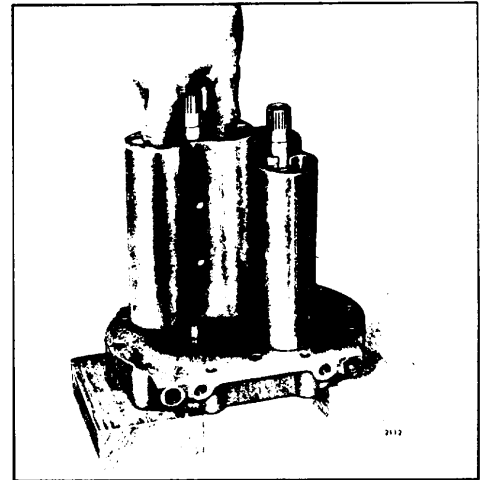

Fig. 5. - Installing Blower Rotors in Front End Plate
- b. Lubricate the outer diameter of the seal and, using installer J 22576, press the seal (lip facing down) into the counterbored hole until the shoulder on the installer contacts the end plate (Fig. 5.).